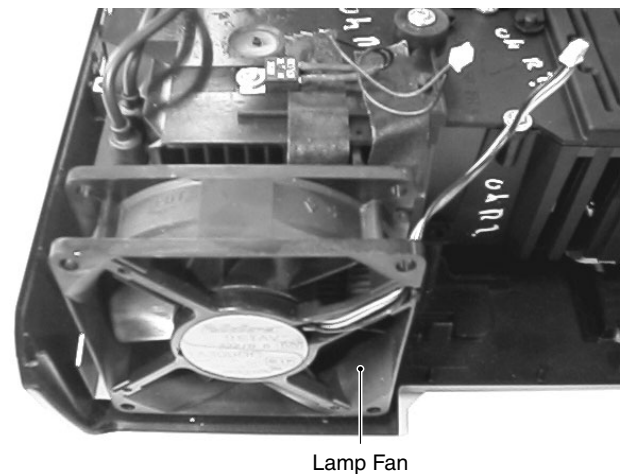

Fig. 17
3. Mounting position of lamp fan (See fig 17).